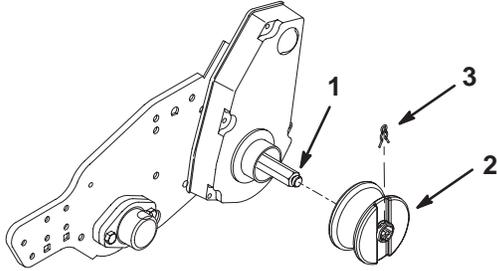

Figure 9
2. Insert a wheel onto each shaft and secure with a wheel clip (Fig. 9).